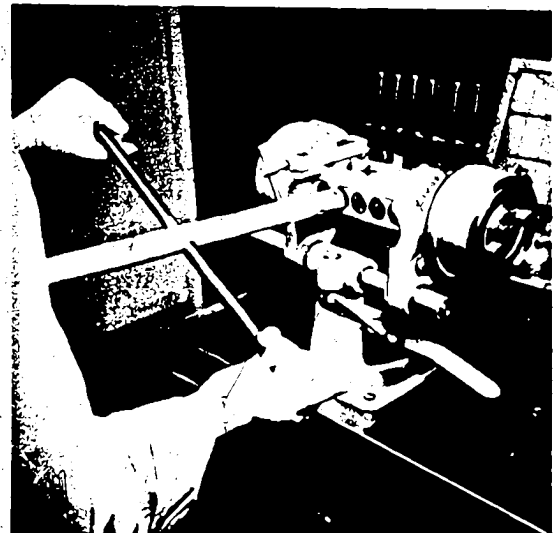

Fig 10 Loosen closing plugs with breast wrench EF 8506
4. Tilt the pump in a horizontal position. Unscrew all the closing plugs (3) by means of breast wrench EF 8506 (Fig. 10).